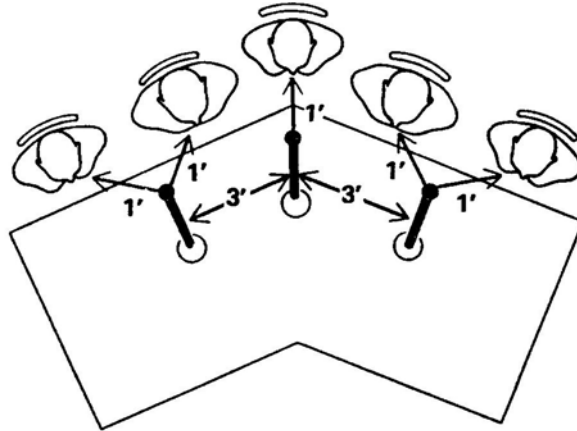
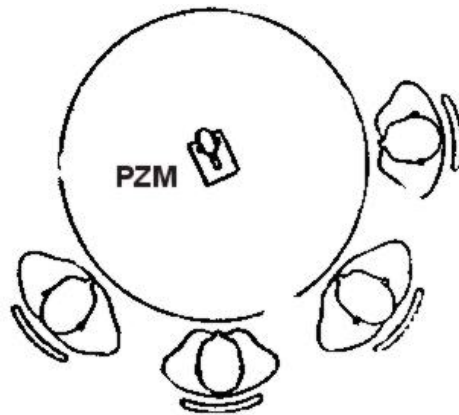

Figure K-7. Multiple Mic Panel Setup
Figure K-8. PZM Single Mic
e. There are several ways to set up microphones for multiple subjects. Because the military rarely produces studio audience-type productions or dramatic shows, it would be a waste of time to try to cover every production possibility or type of microphone used (booms, dual redundancy, long-range, and so forth). There are two ways to cover multiple guests or panel-type shows. Figure K-7 illustrates a setup with three microphones and the approximate distance apart (in feet) of subjects from the mics and the mics from each other. Figure K-8 shows the use of a PZM single mic used on a reflecting surface table.